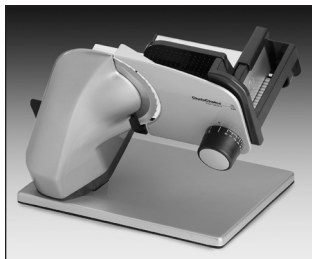

Figure 1.
- To change from “upright” position to “gravity feed” (Figure 1 and 2):